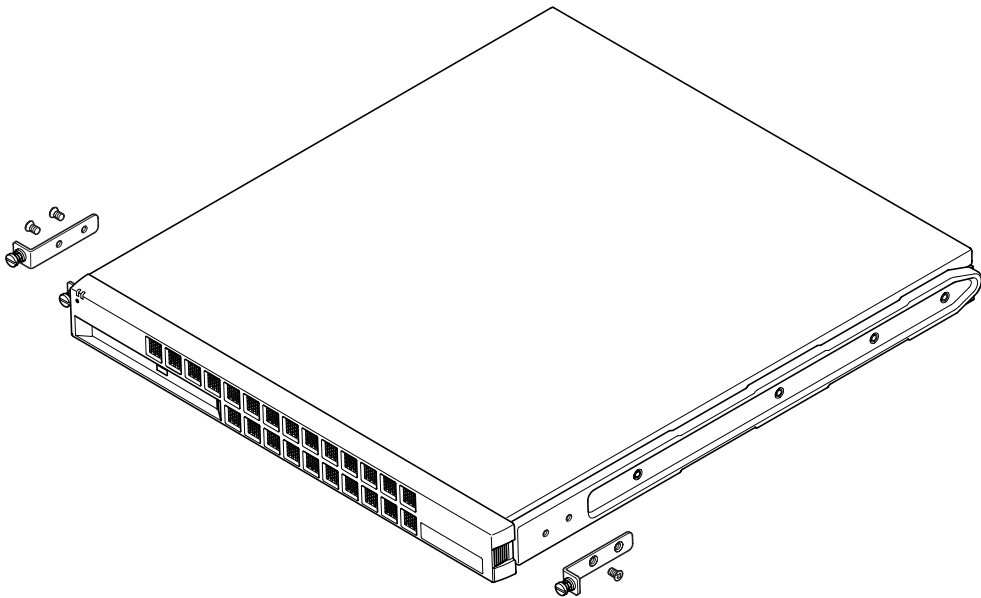

FIGURE 5-10 Removing the Thumbscrew Brackets
1. Remove the thumbscrew rack mounting brackets from either side of the server (see FIGURE 5-10).